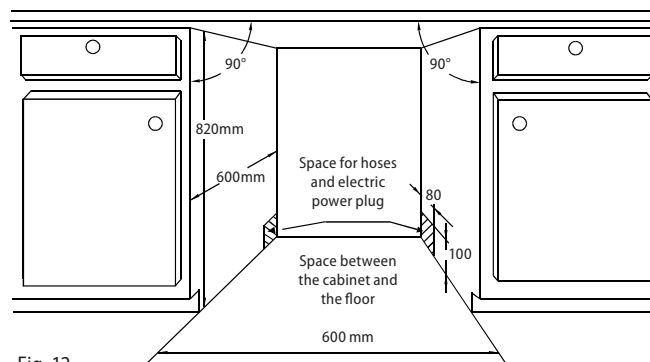

Fig. 12
- Dimensions for mounting the appliance are shown in Fig. 12.